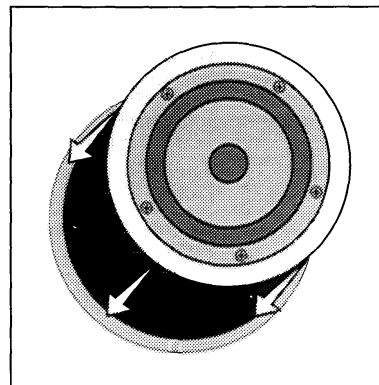
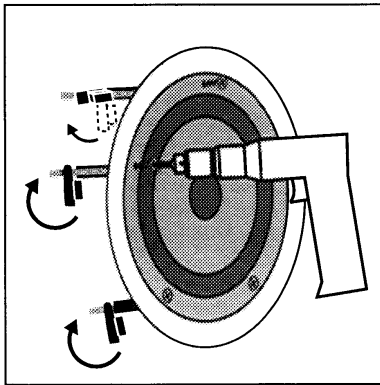

FIGURE 9
FIGURE 10
1. To mount the speaker, make sure that the rotating wall clamps are flipped inwards so that your speaker fits into your cutout without nicking your wall. Then place the speaker carefully into the cutout. [Figure 9] Tighten the wall clamp screws with a screwdriver. This will rotate the wall clamps and secure the speaker to the wall. [Figure 10] Hint: Do not overtighten the wall clamp screws.